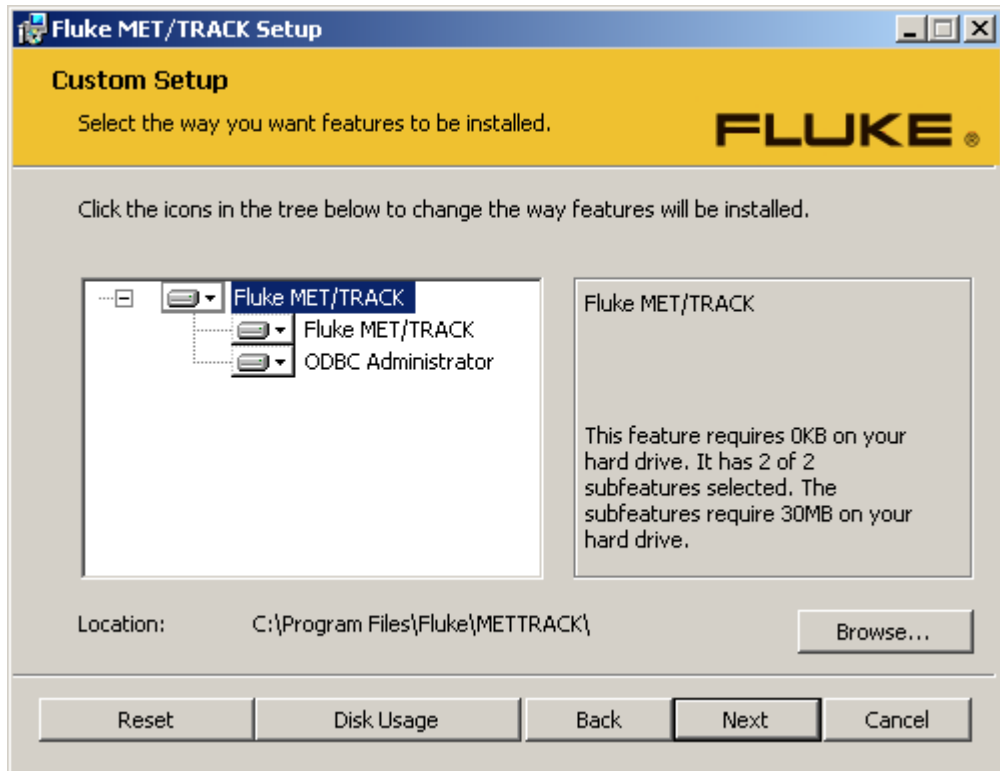

Figure 14. MET/Track Feature Installation
7. For the Custom setup type, select the specific applications and choose the option to install it on the local hard drive. You can change the folder that the MET/TRACK applications will be installed to when you select the Fluke **MET/TRACK** item and click **Browse...**, see Figure 14.